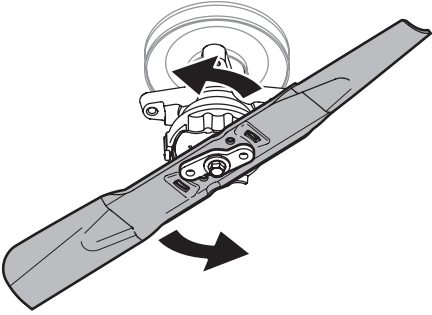

Fig. 48
4. While holding the collar in the upward position, rotate the blade counter-clockwise to free it from the collar (Fig. 48).